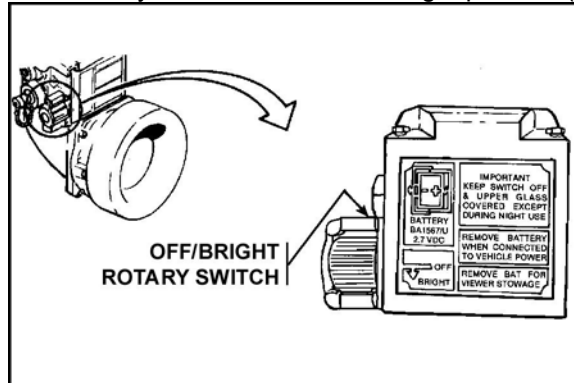

Figure 2. OFF-BRIGHT rotary switch.
- b. Turn the OFF-BRIGHT rotary switch to maximum bright position (Figure 2).